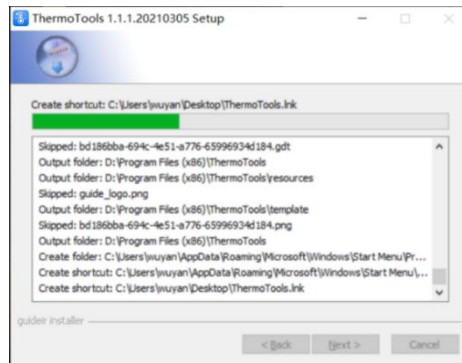

Figure 2-5 Install in Progress
5. Clicking “Back” will return to the installation wizard interface. Click “Install” to enter the installation progress interface, and wait for the installation to be completed, as shown in Figure 2-5. Click “Cancel” will end the installation.